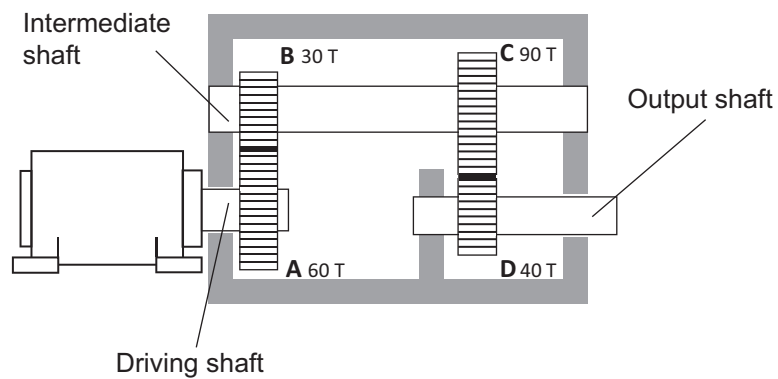

Fig. 2
- (c) Fig. 2 shows the layout of a gearbox which has four gear wheels. The number of teeth on each gear wheel is shown. The driving shaft rotates at 600 rev/min (rpm).
- (i) State the type of gear train shown in Fig. 2.
- (iii) Calculate the gear ratio of the gearbox in Fig. 2. Candidates need to show their working out in the space below.
- (iv) Calculate the speed of the output shaft in **Fig. 2**.
- (v) The gearbox in **Fig. 2** is to be changed to give an output speed of 3000 rpm by changing gear wheels **C** and **D** only. The following gear wheels are available: 30T, 45T, 60T, 75T. Select the appropriate gear wheels for **C** and **D** and calculate the speed of the output shaft using the selected gear wheels to show that this will achieve the desired output speed of 3000 rpm.